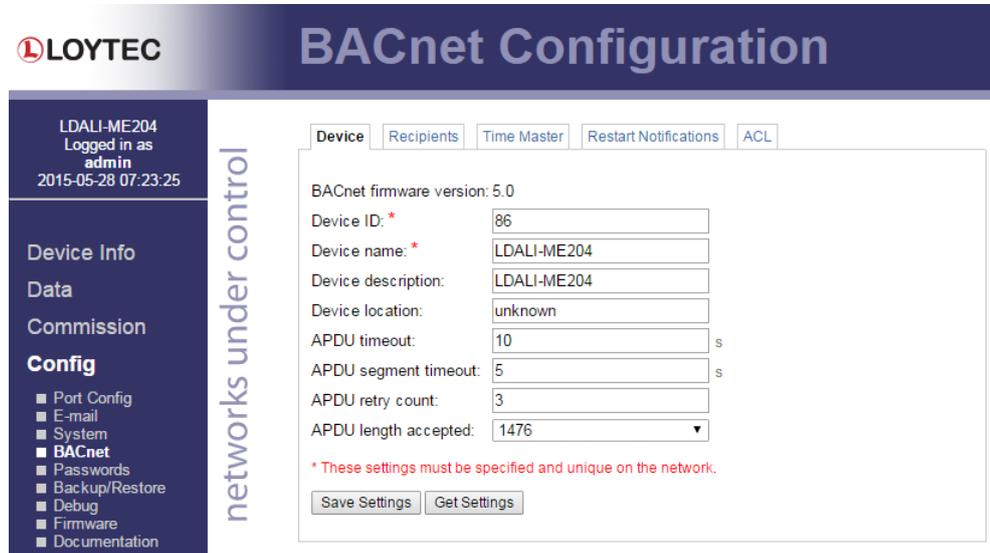

Figure 36: BACnet Device Configuration.
3. Enter a unique device ID and device name as shown in Figure 36.